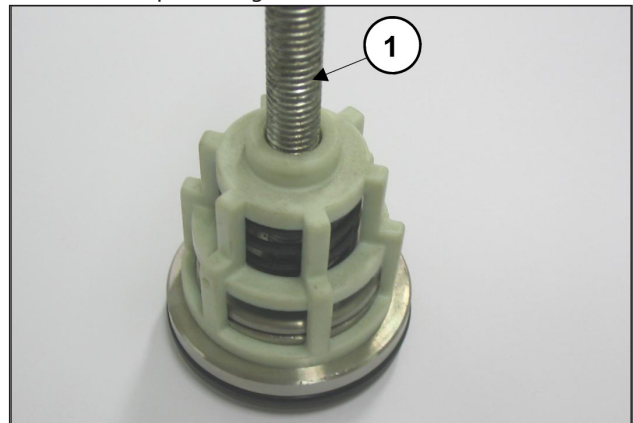

Fig. 17
- Disassemble the suction and outlet valve units, screwing a sufficiently long M10 screw in such a way as to be able to reach the valve plate and extract the valve guide from the valve seat (pos. ①, Fig. 17).